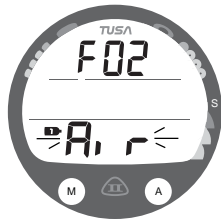

Fig. 15A - SET FO2 GAS 1
**Set FO2 Gas 1**, information includes (Fig. 15A/B):